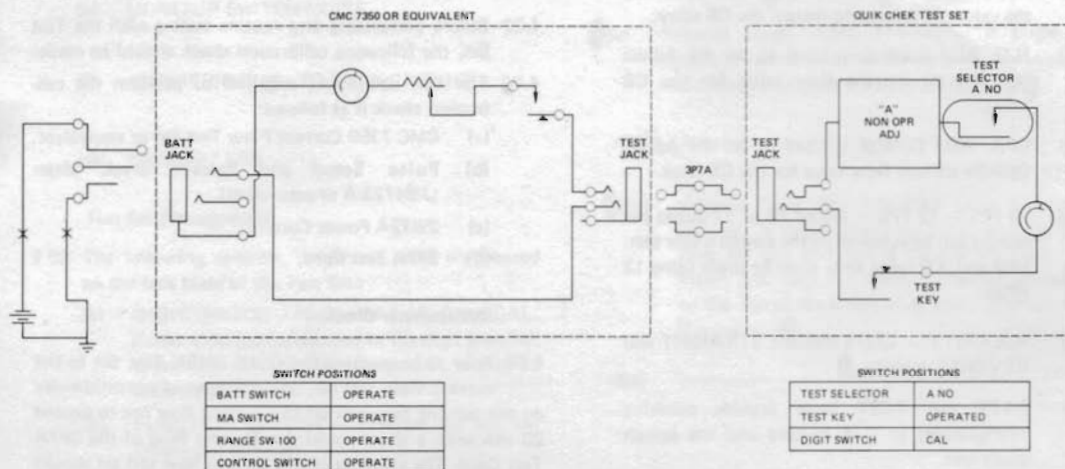

Figure 3 Test Equipment Arrangement for Calibration Check of the Milliammeter
- 4.04 Prior to connecting the QUIK CHEK Test Set to the current flow test set, adjust a control potentiometer on the current flow test set to a current flow not to exceed 20 mA with a short across the Tip and Ring of the 3P7A Test Cord. The switches on the current flow test set should be positioned as shown in Figure 3.